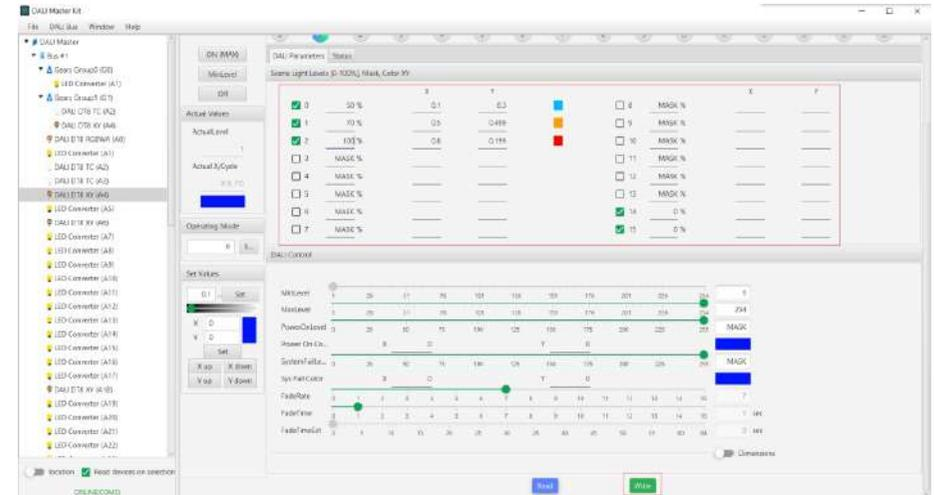

Figure 12 DALI Scene Configuration for DT8 XY Device
4.4. For DT8 XY device, brightness level, X coordinate value and Y coordinate value should be set for a DALI scene. After setting the parameters of the scenes, Click on **"Write"** button on bottom right of the window to write the scenes to the DALI device as shown in Figure 12.